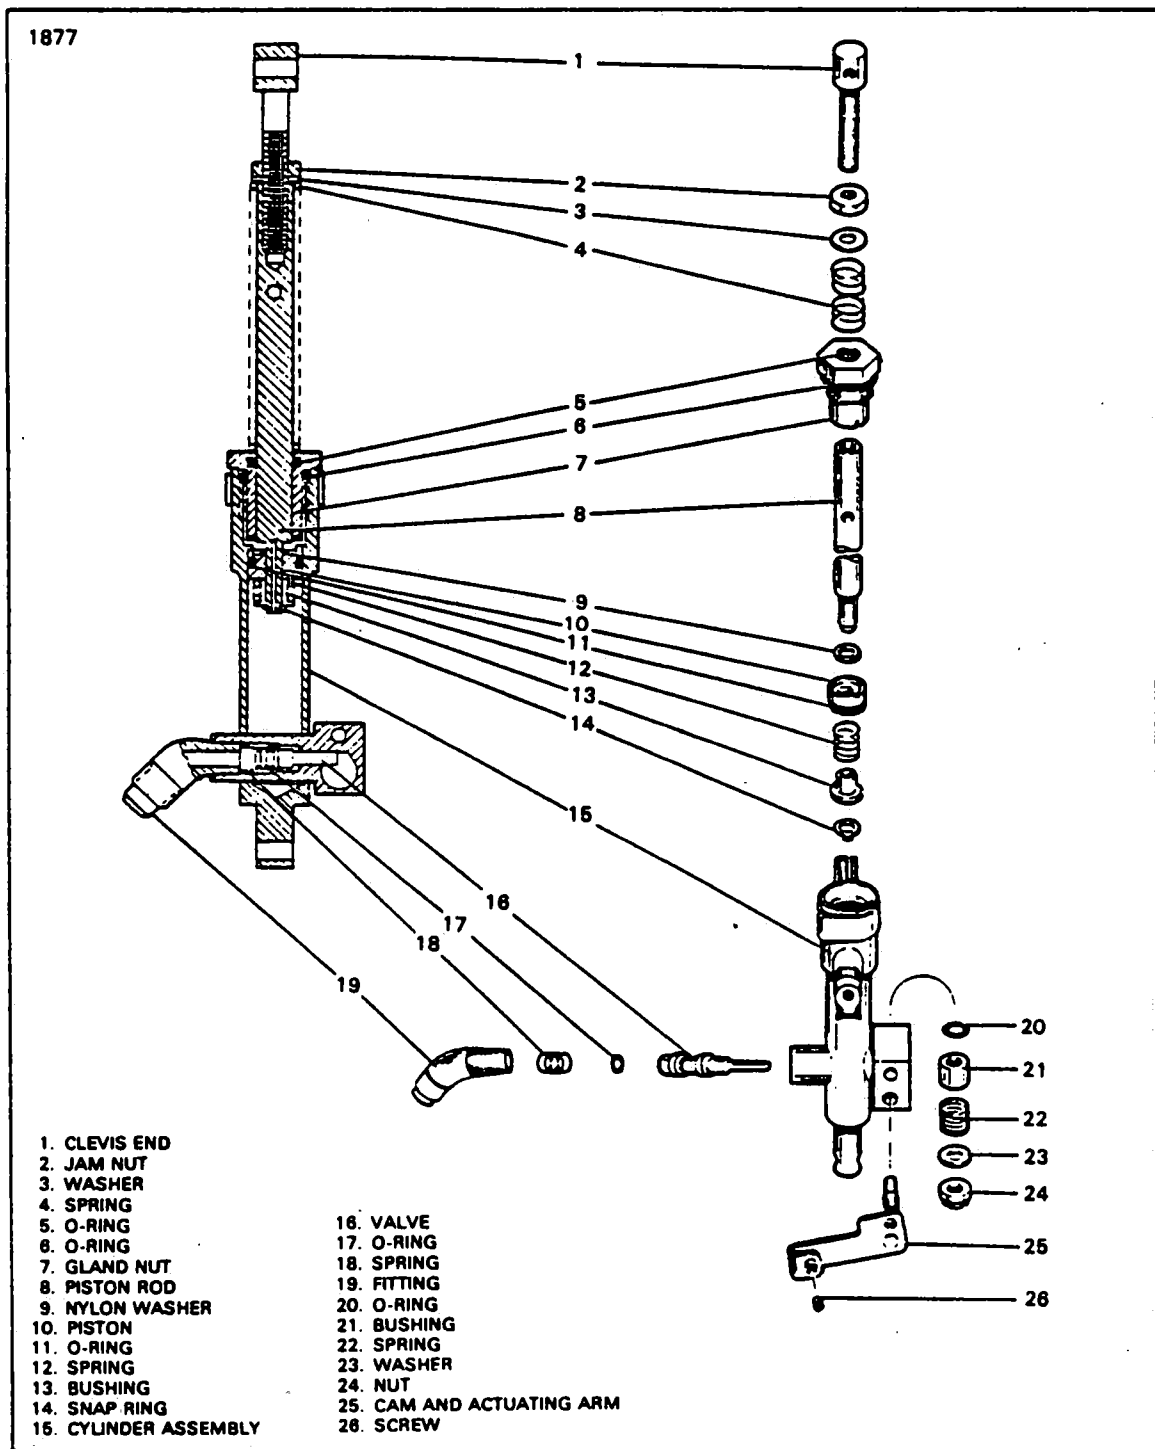

Figure 7-25. Brake Master Cylinder Assembly
**7-68. DISASSEMBLY OF BRAKE CYLINDER. (Refer to Figure 7-25.)**
- a. Loosen the gland packing nut (5) and slide the piston rod assembly (8) out of the cylinder assembly (15).
- b. Remove the snap ring (14) at the bottom of the piston rod assembly and slide off bushing (13), spring (12), piston (10), washer (9), packing nut (7) and spring (4).
- c. Remove the nut (24), washer (23), spring (22), bushing (21) and "O" ring (20) attaching the parking brake arm (25) to the cylinder housing (15).
- d. Remove the lower fluid line fitting (19) and pull out the spring (18), "O" ring (17) and valve (16).
**7-70. ASSEMBLY OF BRAKE CYLINDER. (Refer to Figure 7-25.)**